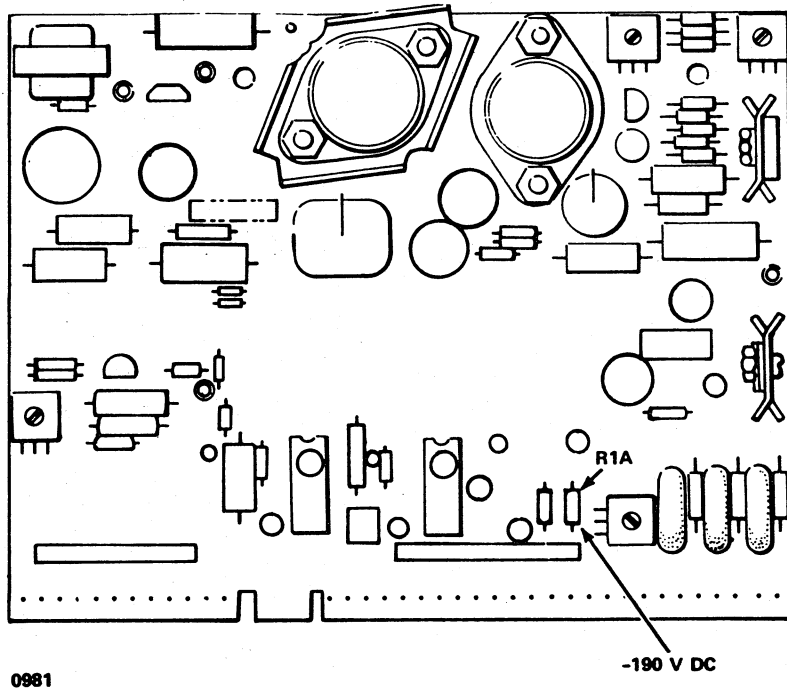

Figure 6-32. Test Point for -190 V dc
10. Connect the negative (-) lead to R1A (figure 6-32).